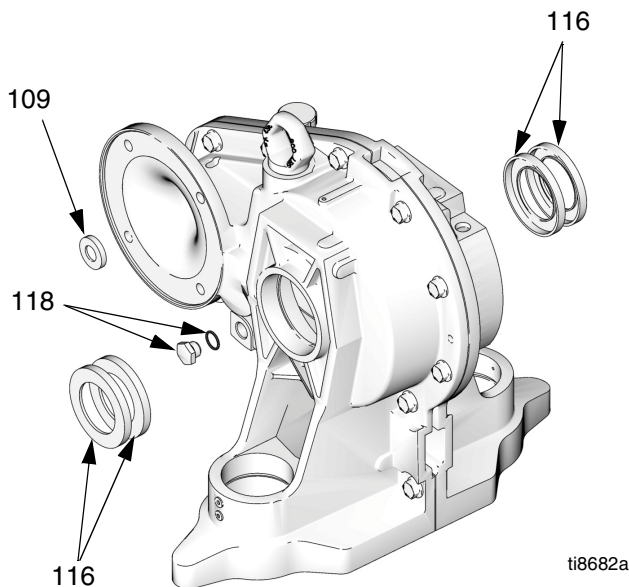

FIG. 24. Gear Reducer Seals
5. Remove four screws (12) and both covers (21, 32).
6. See FIG. 24. On the motor side of the gear reducer, unscrew the oil drain plug (118) with gasket. Pierce the input seal (109) with a hardened sheet metal screw and pull it out.